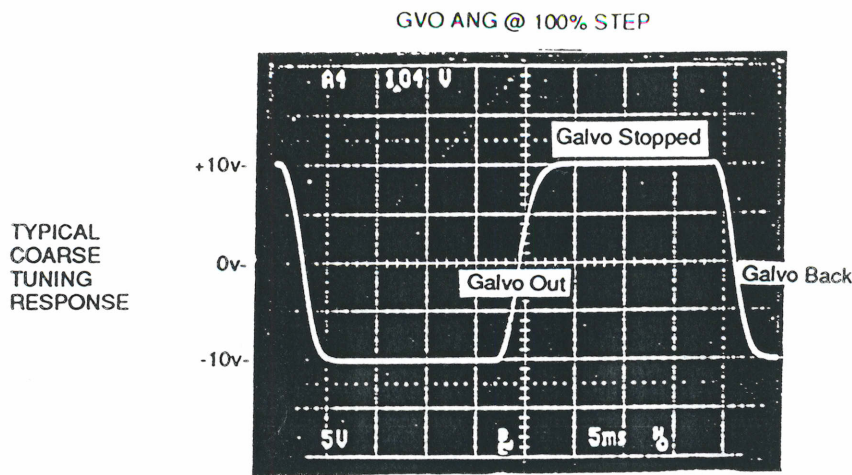

Figure 3
7. Slowly rotate the VAR control fully clockwise (to 100%) and verify that a response similar to that shown in Figure 3 is achieved. This confirms that *coarse tuning* has been satisfactorily set. If excessive overshoot or oscillation is observed, refer to Figure 2 for pot locations and adjust the DMP ING (VR3) pot and VEL BAL (VR1) pot until a reasonable square wave can be achieved without any overshoot, with the VAR control set fully clockwise. *This waveform must be achieved before proceeding to fine tuning adjustment in step 8.*